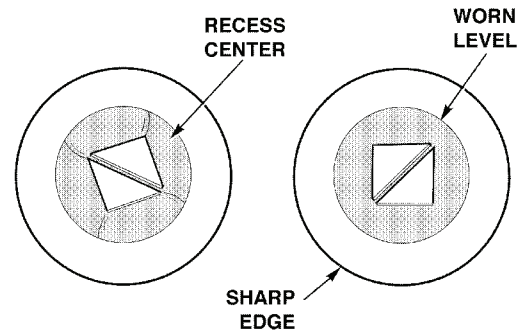

Figure 5.
- (1) Large ends of roller worn flush to the recess, or the radii at the large ends of the rollers worn sharp. Refer to Figure 5.